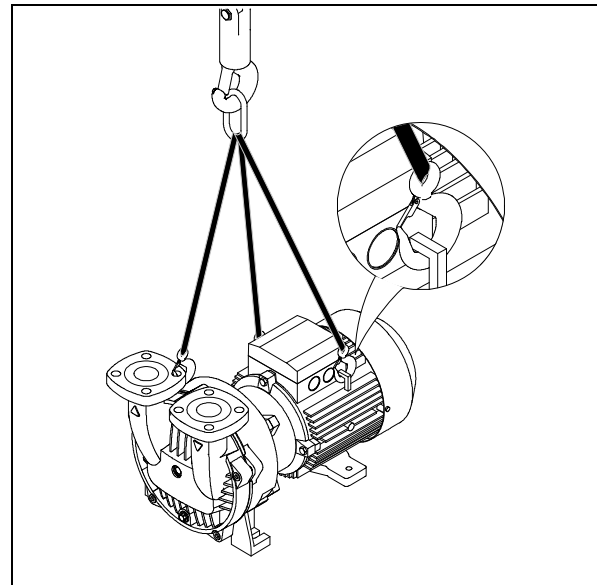
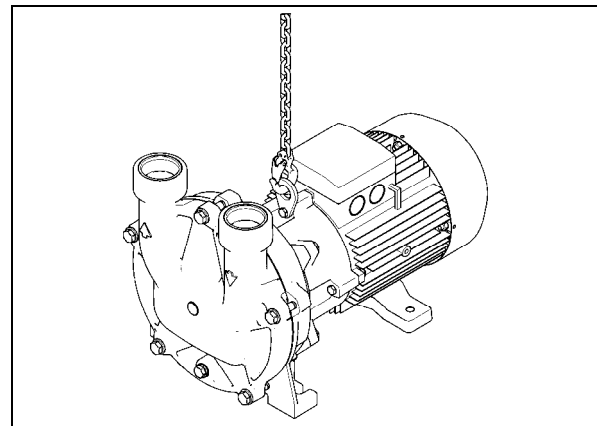

Fig. 4: Lifting points 2BV51..
Fig. 6: Lifting points 2BV547.
- the lifting points are the lifting eyes on the motor and one drilling in the discharge connection or the suction connection (Fig. 4 - Fig. 6, page 14).